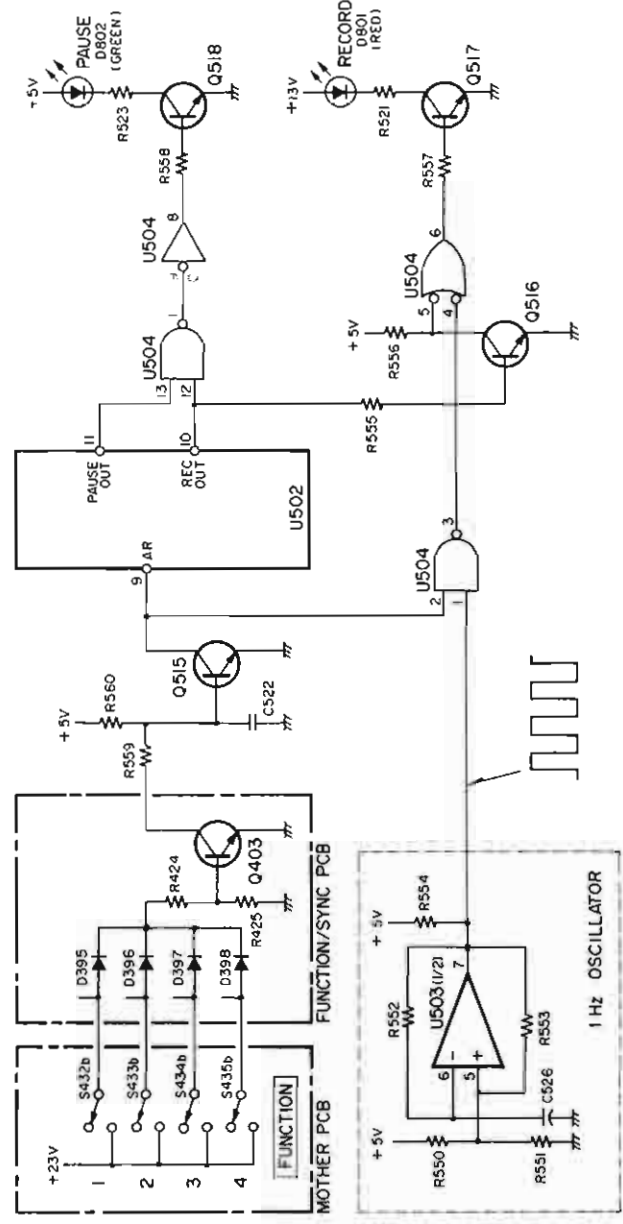

Fig. 6-12 LED driver circuit
When FUNCTION SELECT switch conductivity is obtained on at least one channel of CH1 to CH4, the base current of Q403 flows in Route ③ with Q403 conductive. Therefore, the low level REC MODE signal is supplied to the CONTROL PCB. (This signal supplies the system control IC with recordable signals with the Q515 cut off on the CONTROL PCB, and causes the RECORD LED to flash... See item 6-8-1 and Fig. 6-12.)
(2) RECORDING START